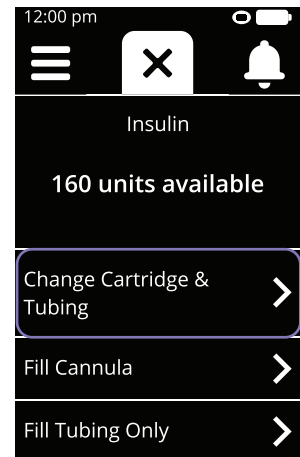

Figure 73
- Tap **Change Cartridge and Tubing** (see Figure 73).